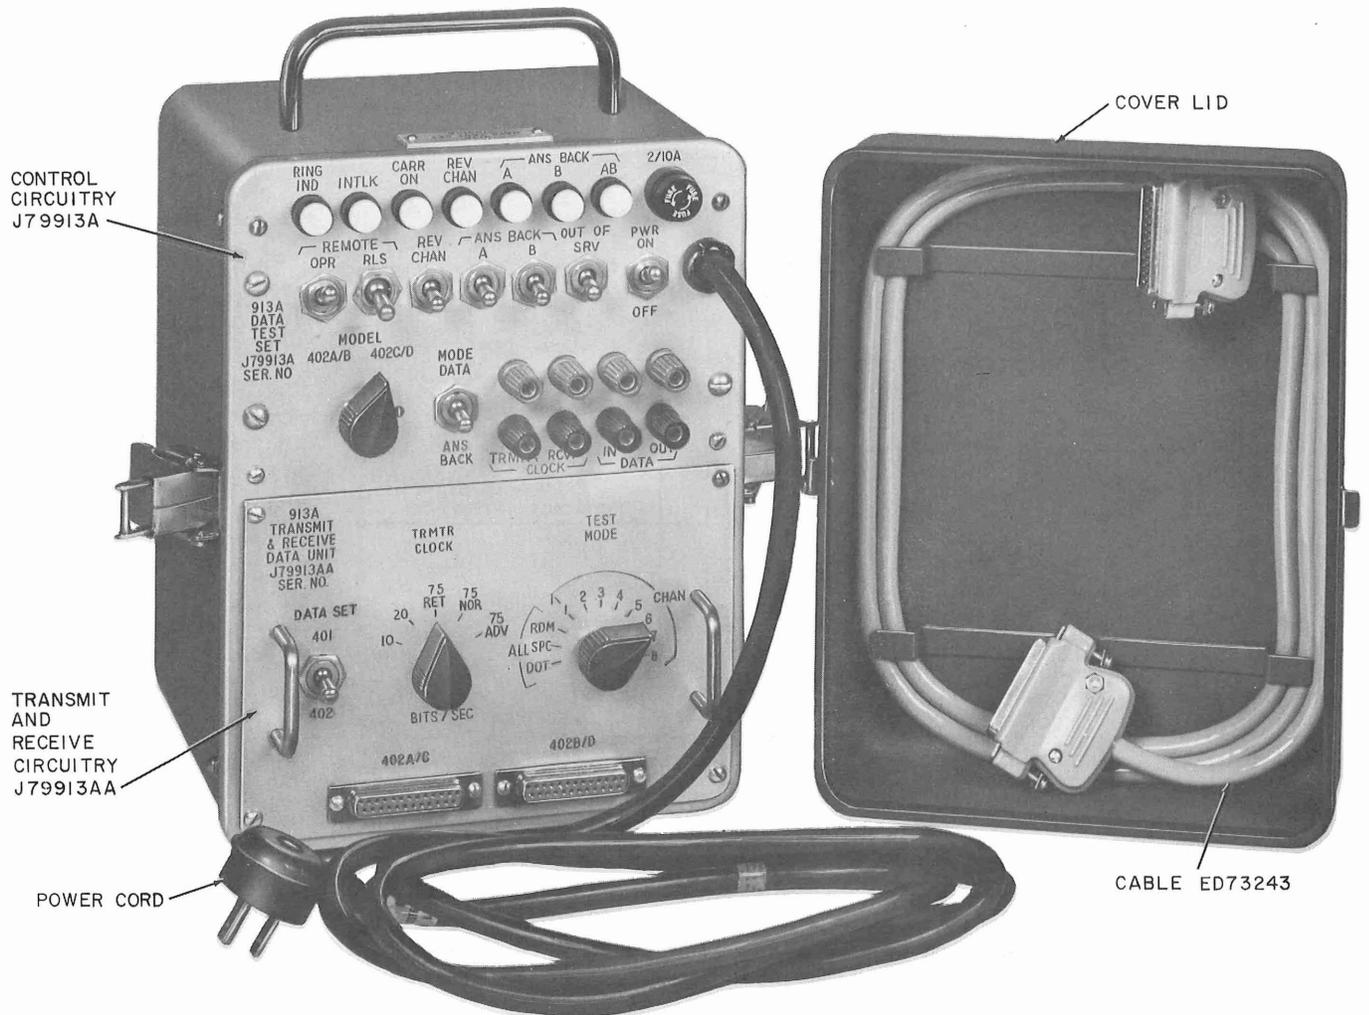

Fig. 3—913A Data Test Set, Component Complement
2.07 The front panel (Fig. 3), part of J79913A, is gray anodized aluminum and has switches, terminal jacks, and lamps. Each of the switches, terminal jacks, and lamps is designated according to its respective function. The other front panel, part of J79913AA, is also gray anodized aluminum and has the interface plugs and switches to condition the signals to be tested. On the rear of this panel